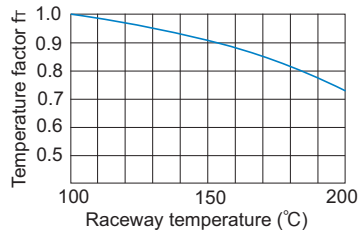

Fig. 2 Temperature Factor (f_T)
- f_T : Temperature factor (see Fig.2 **A11-6**)
If the temperature of the environment surrounding the operating Flat Roller exceeds 100°C , take into account the adverse effect of the high temperature and multiply the basic load ratings by the temperature factor indicated in Fig. 2.